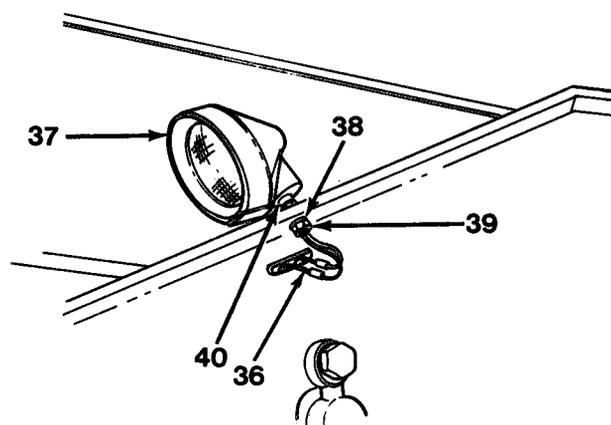

Figure 10-7
8. Install clamp (44), washer (33) and nut (32).
9. Install three spacers (40), work lights (37), washers (39) and nuts (38, Figure 10-7).
10. Connect two work light wires (36) to each of three work lights (37).